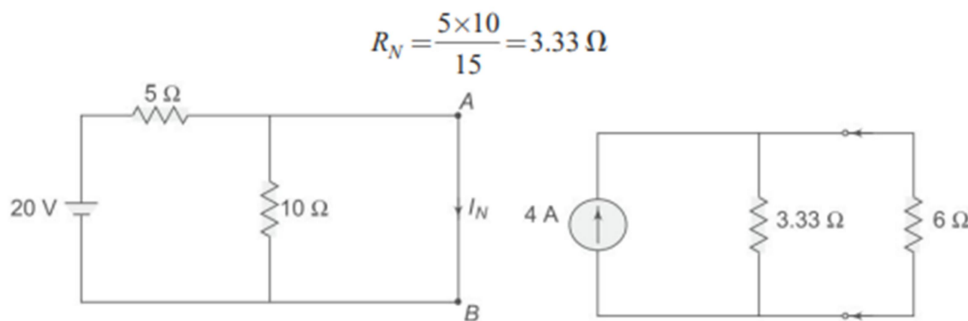

Figure 12
i.e. the voltage across the 6 V resistor is 8.58 V. Now let us find Norton's equivalent circuit. The magnitude of the current in the Norton's equivalent circuit is equal to the current passing through short-circuited terminals as shown in Fig. 12
The Norton's equivalent source is shown in Fig. 12.